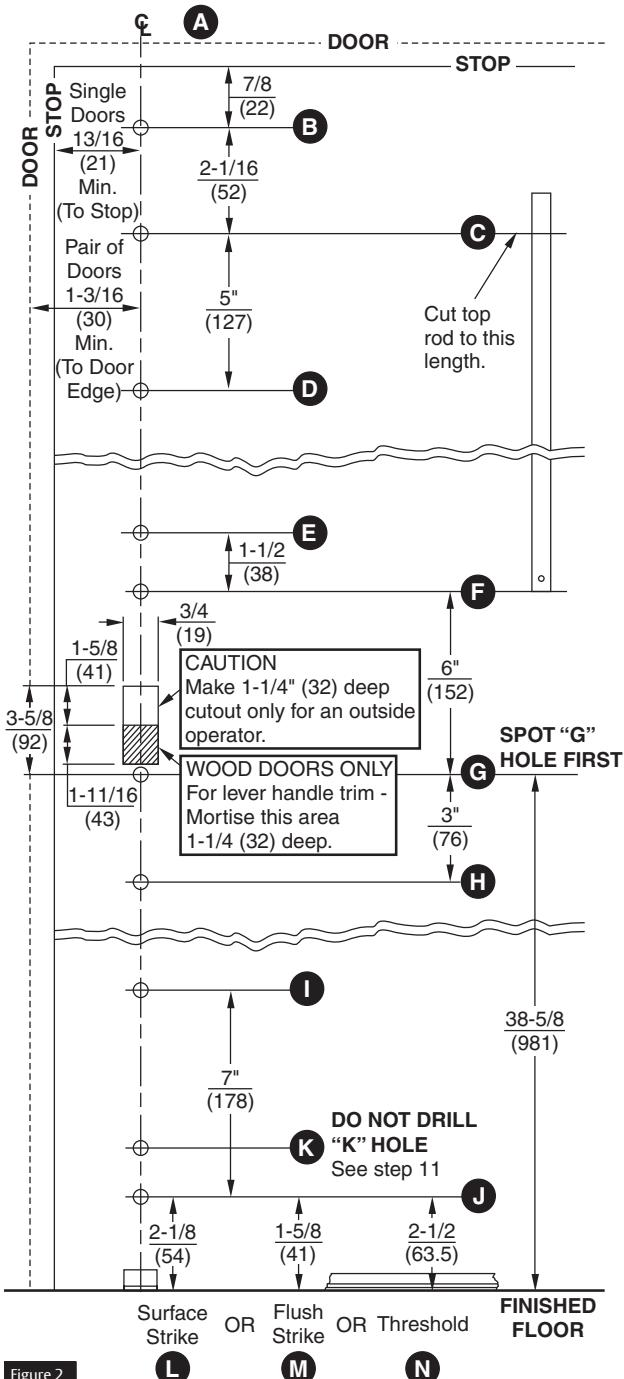

Figure 2
Spot and drill holes B to J for screws and hex nuts (as listed in screw guide - Figure 1 on page 2). (Figure 2) SPOT G FIRST.
1. Measure distance from bottom screw hole "C" of top latch case to top screw hole "F" in active case. (Figure 2 on page 3)
1. Install 4 top and bottom rod guides exactly on centerline. (D, E, H, I; Figure 2 on page 3)